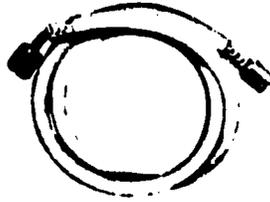

Fig 3-16. Charging hoses.
**CHARGING HOSES** (fig 3-16) are flexible and are used to connect the gauge manifold to the system. Charging hoses are equipped with 1/4-inch (6.5 mm) flare connections on each end. One end usually has a valve core depressing attachment for attaching the gauges to schrader valves. This is a type of service valve which is used on systems not provided with a means of servicing. Charging hoses may be obtained in a variety of colors which facilitate making the connections to the unit and are designed for a working pressure of 500 psi (35.15 kg/cm2) and an average bursting pressure of 2000 psi (140.6 kg/cm2). Many equipment manufacturers color code the low-side gauge casing and hose blue and the high-side gauge and hose red. The center or refrigerant hose is colored white. This system is very helpful to avoid crossing hoses and damaging gauges.